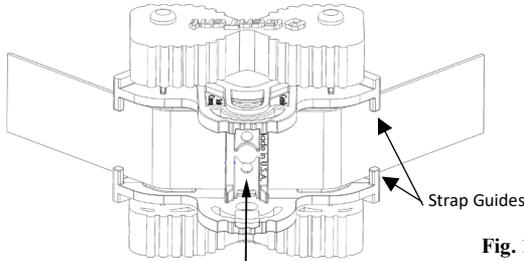

Fig. 1.11
The Kevlar® Ratchet Strap is what secures the four Angle Braces to the case of your generator. It is threaded through and behind the Angle Brace center (Fig 1.11) circling around the generator to feed into Ratchet Buckle for tightening.
- h. Unwind your Kevlar® Strap, take the loose end and feed it through each Angle Brace, ensuring to stay under the strap guides (Fig 1.11) and behind the center section (Fig 1.11). While feeding the strap through each of the Angle Braces **avoid twisting the strap** and be sure the grommets are facing toward the case.